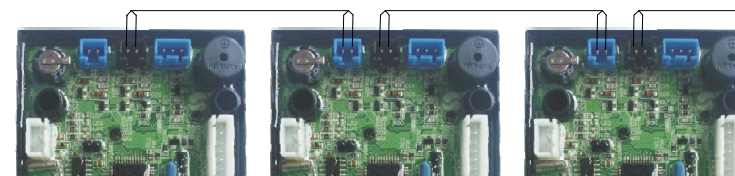

Figure3-8
H. The wiring of interlock connector, it refers to Figure 3-8: